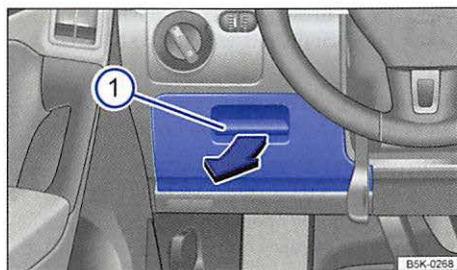

Fig. 98 On the driver side: Storage compartment.
To *open*, press the button $\Rightarrow$ fig. 98 ① down and pull the handle in the direction of the arrow.